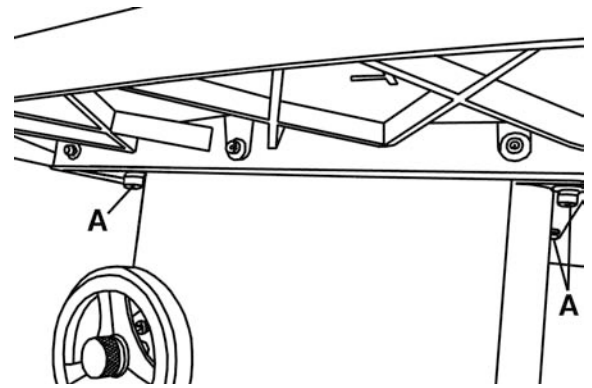

FIGURE 21
If an adjustment is necessary, loosen the four cap screws (A) Fig.21 which fix the table top to the cabinet, make the needed adjustment to the table top position until both measurements are equal or less than 1/64" and retighten the four cap screws (A).